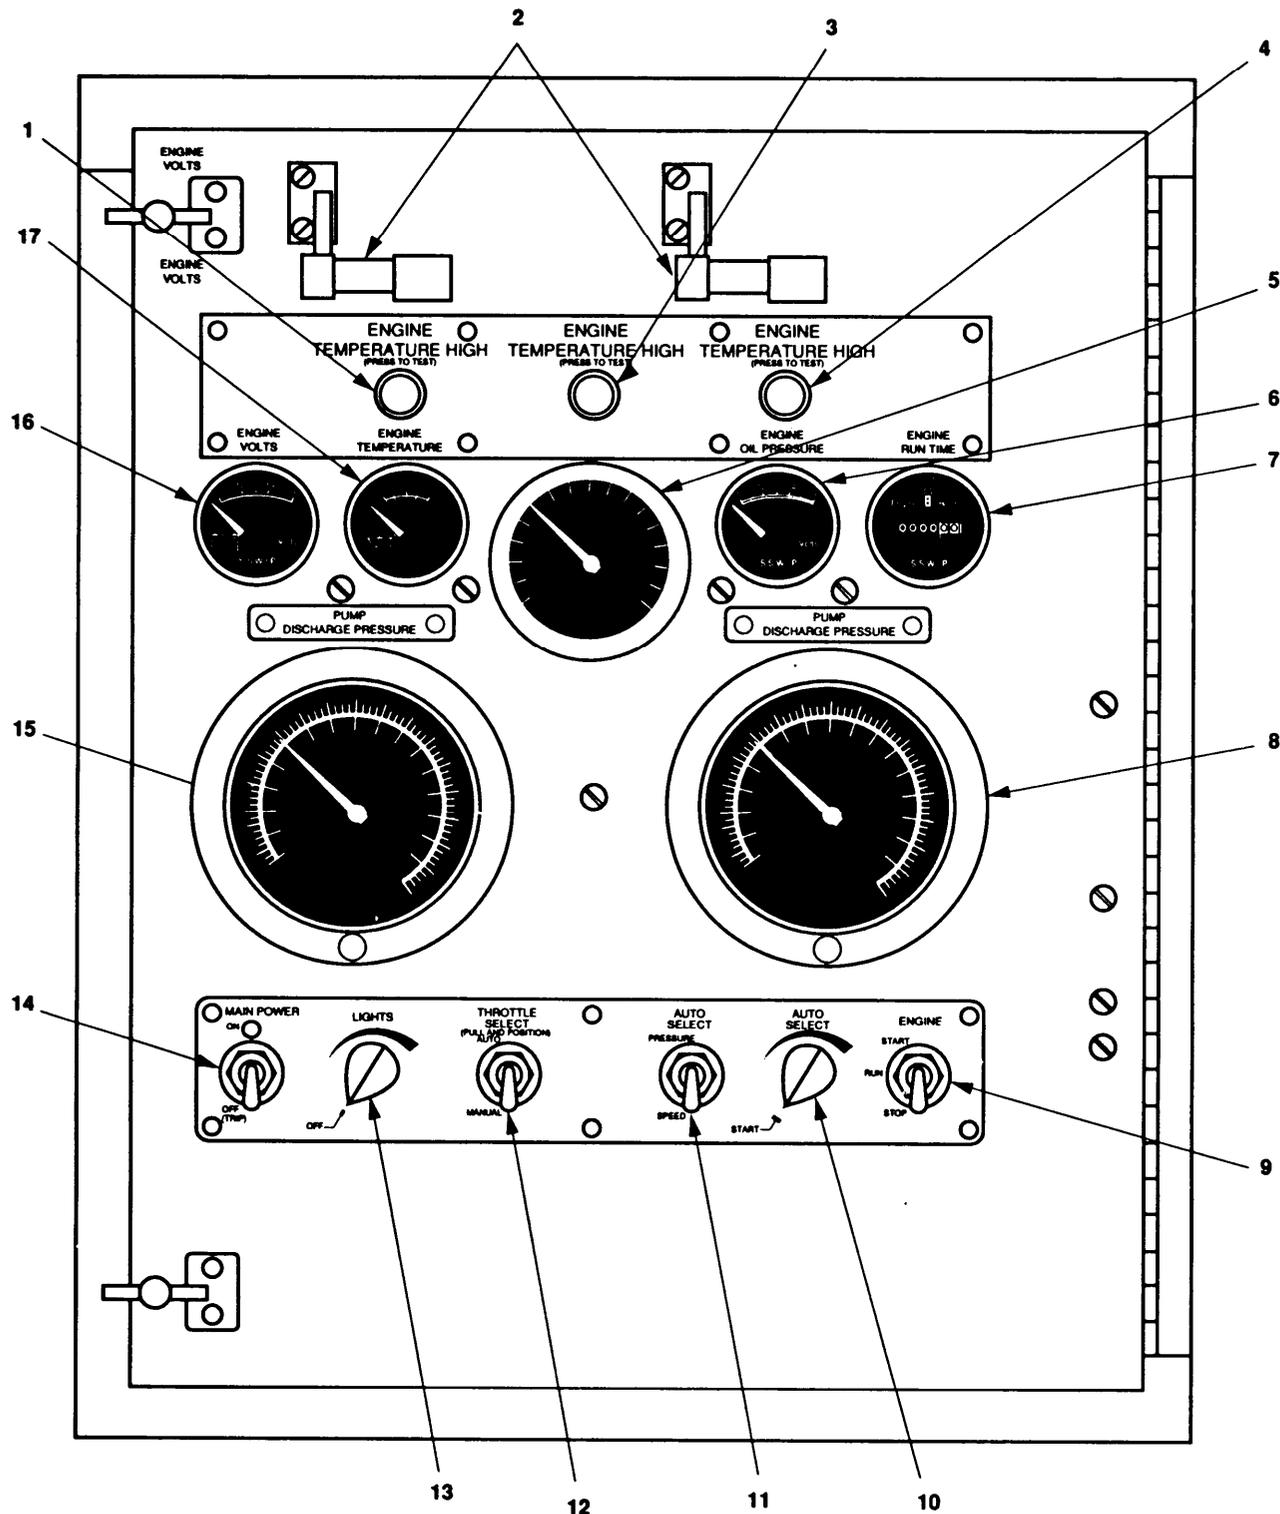

Figure 2-3 Model 609-C Control Panel.
2.1.2.1 Control Panel. Refer to Figure 2-3 and Table 2-3.